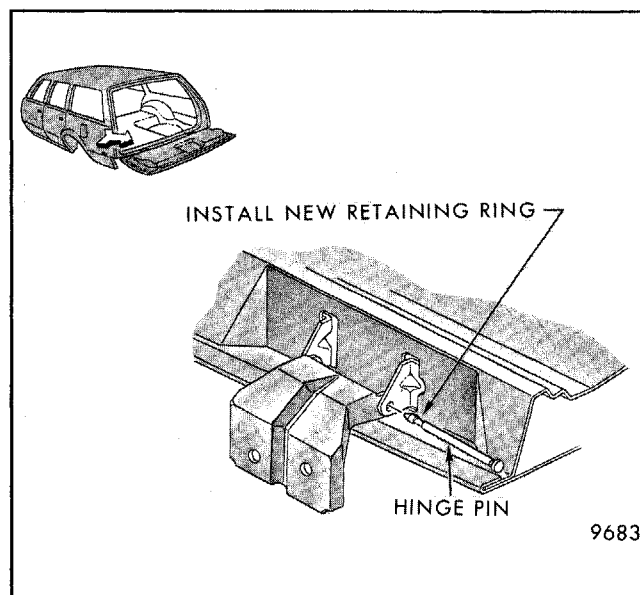

Fig. 7-98 - Hinge Pin Removal and Replacement
8. Align gate to body. Prior to installing hinge pins, install new retaining ring in notches provided in pins. Position retaining ring so that tabs point toward head of pins (Fig. 7-98).